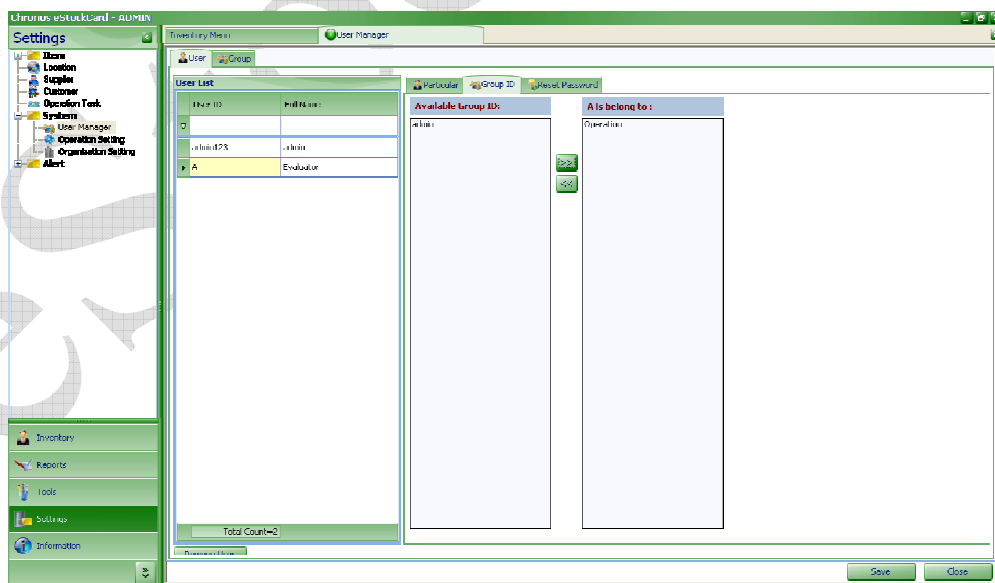

Fig. 12
Step 2 We decide to allow user “A” to do simple “IN” & “OUT” operations. Hence, it will be assigned to Operation group. Click “Save” once done. To exit just click the Close button. (Fig. 12)